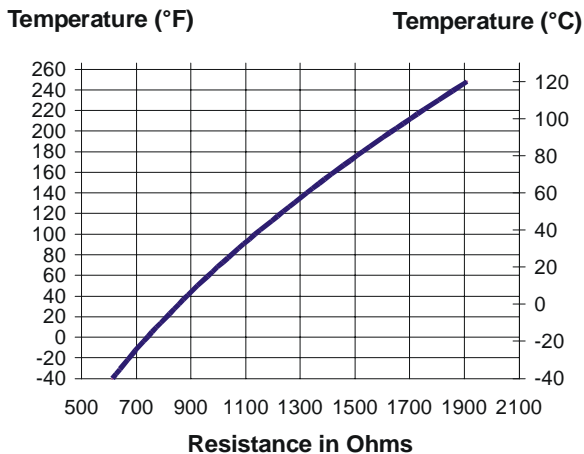

Figure 15: Nominal Temperature vs. Sensor Resistance
- Refer to Figure 15 to verify that the measured temperature and resistance conform to established temperature and resistance values.
- If the measured values conform to the values in Figure 15, proceed to Step 3.